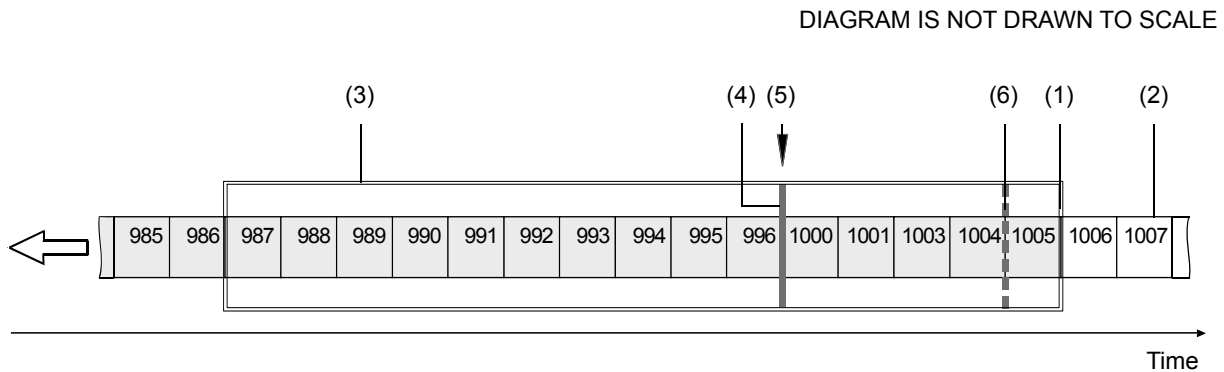

Fig. 10: Example of a Receive Window with Resend Request Threshold & Resend Request Batching Threshold
The threshold resend request mechanism is illustrated in Fig. 10 where the following assumptions are made:
- (1) Front end of the receive window. Missing packets are detected here.
- (2) Stream of packets. Gray indicates that the status was checked as the packet entered the receive window. White indicates that the status has not yet been checked.
- (3) Receive window of the performance driver.
- (4) Threshold for sending resend requests (resend request threshold).
- (5) A separate resend request is sent for each packets 997, 998, and 999.
- (6) Threshold for batching resend requests for consecutive missing packets (resend request batching threshold). Only one resend request will be sent for the consecutive missing packets.
**ResendRequestThreshold** - This parameter determines the location of the resend request threshold within the receive window as shown in Fig. 10. The parameter value is in per cent of the width of the receive window. In Fig. 10 the resend request threshold is set at 33.33% of the width of the receive window.
A stream of packets advances packet by packet beyond the resend request threshold (i.e. to the left of the resend request threshold in Fig. 10). As soon as the position where a packet is missing advances beyond the resend request threshold, a resend request is sent for the missing packet.
In the example shown in Fig. 10, packets 987 to 1005 are within the receive window and packets 997 to 999 and 1002 were detected as missing. In the situation shown, a resend request is sent to the camera for each of the missing consecutive packets 997 to 999. The resend requests are sent after packet 996 - the last packet of the intact sequence of packets - has advanced beyond the resend request threshold and before packet 1000 - the next packet in the stream of packets - can advance beyond the resend request threshold. Similarly, a resend request will be sent for missing packet 1002 after packet 1001 has advanced beyond the resend request threshold and before packet 1003 can advance beyond the resend request threshold.
**ResendRequestBatching** - This parameter determines the location of the resend request batching threshold in the receive window (Fig. 10). The parameter value is in per cent of a span that starts with the resend request threshold and ends with the front end of the receive window. The maximum allowed parameter value is 100. In Fig. 10 the resend request batching threshold is set at 80% of the span.
If the Resend Request Batching parameter is set to 0, no batching will occur and a resend request will be sent for each single missing packet. For other settings, consider an example: Suppose the Resend Request Batching parameter is set to 80 referring to a span between the resend request threshold and the front end of the receive window that can hold five packets (Fig. 10). In this case 4 packets ( $5 \times 80\%$ ) will fit into the span between the resend request threshold and the resend request batching threshold. Accordingly, the maximum number of consecutive missing packets that can be batched is 5 ( $4 + 1$ ).